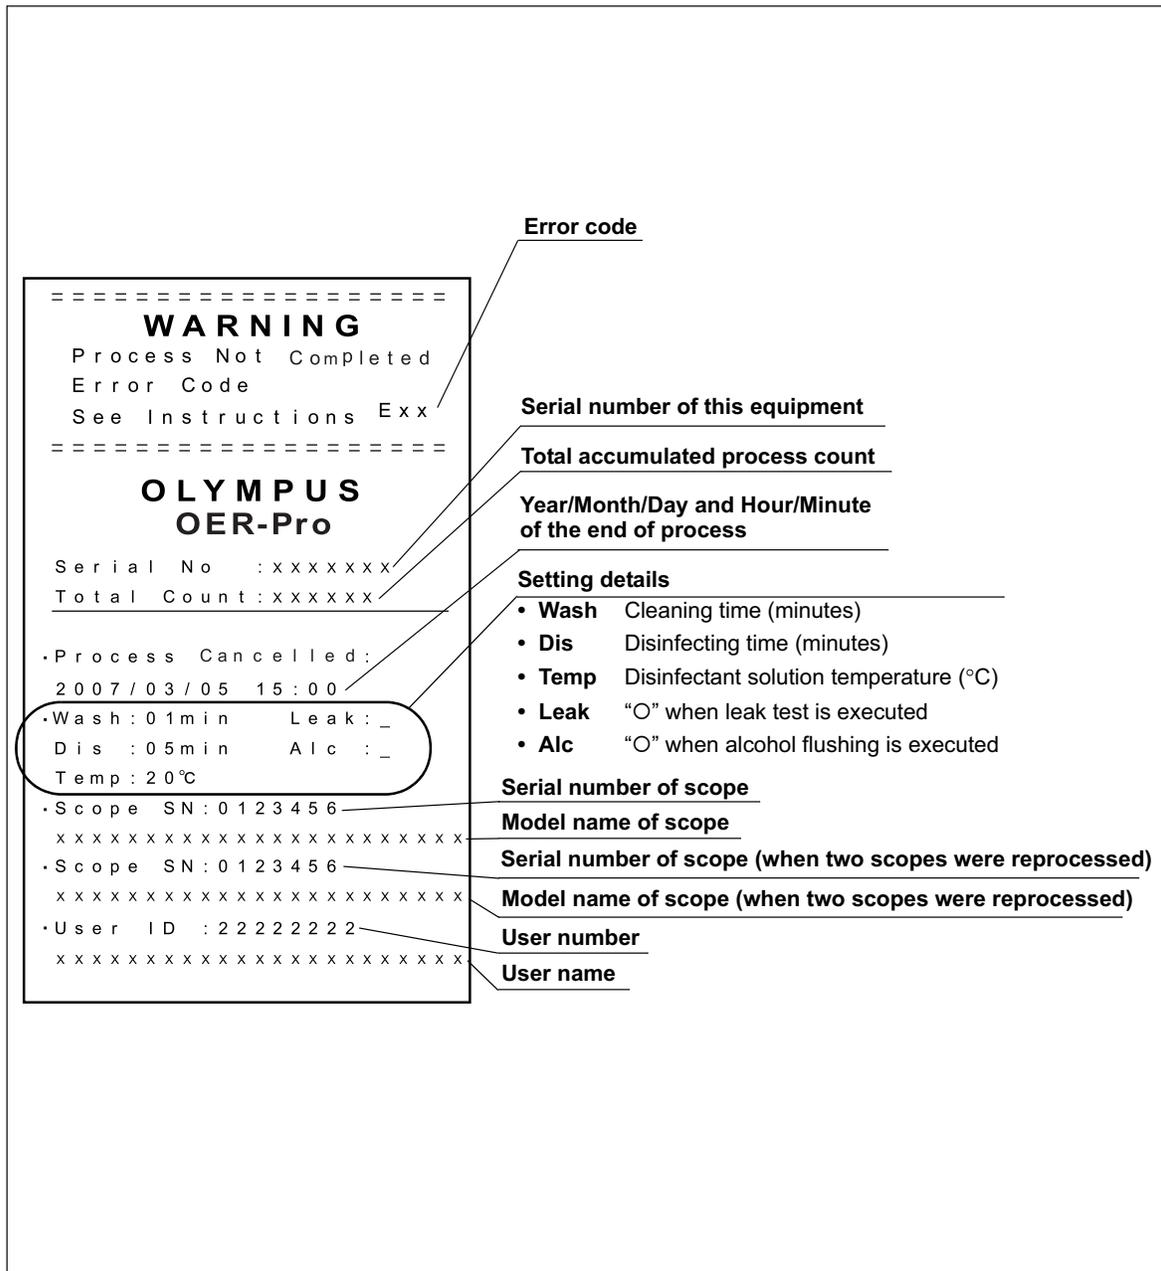

Figure 4.50
- For the printed information (see Figure 4.50).